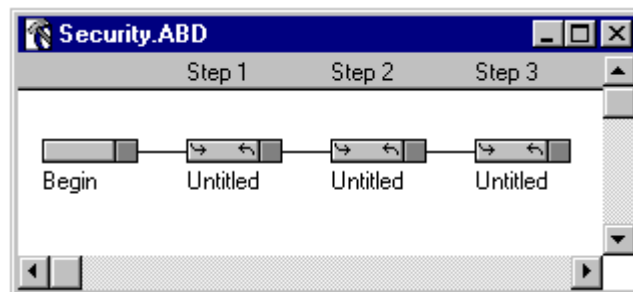

Figure 3-11 Security Application
10. Since our application needs Input Handlers in Steps 1, 2, and 3, click the **New Input Handler** button on the toolbar two more times. Your application window should appear similar to Figure 3-11.